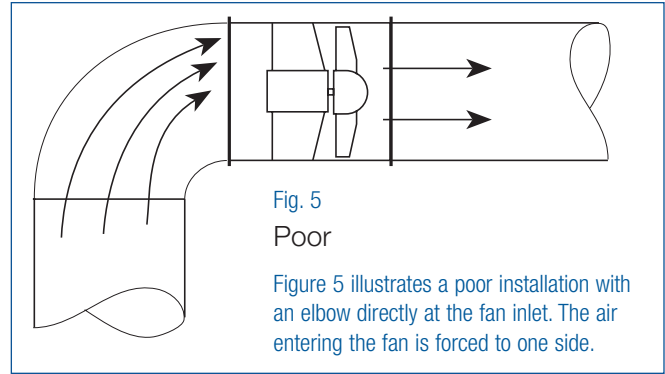
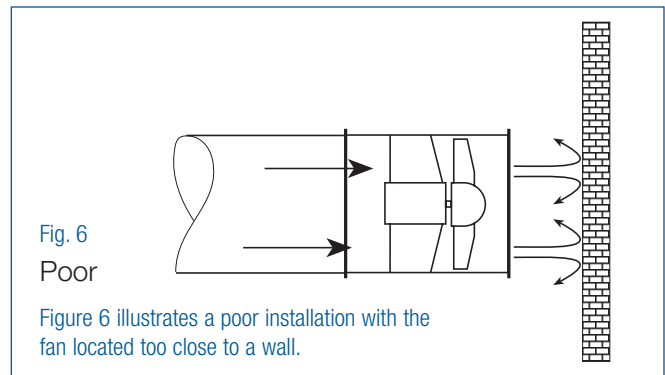
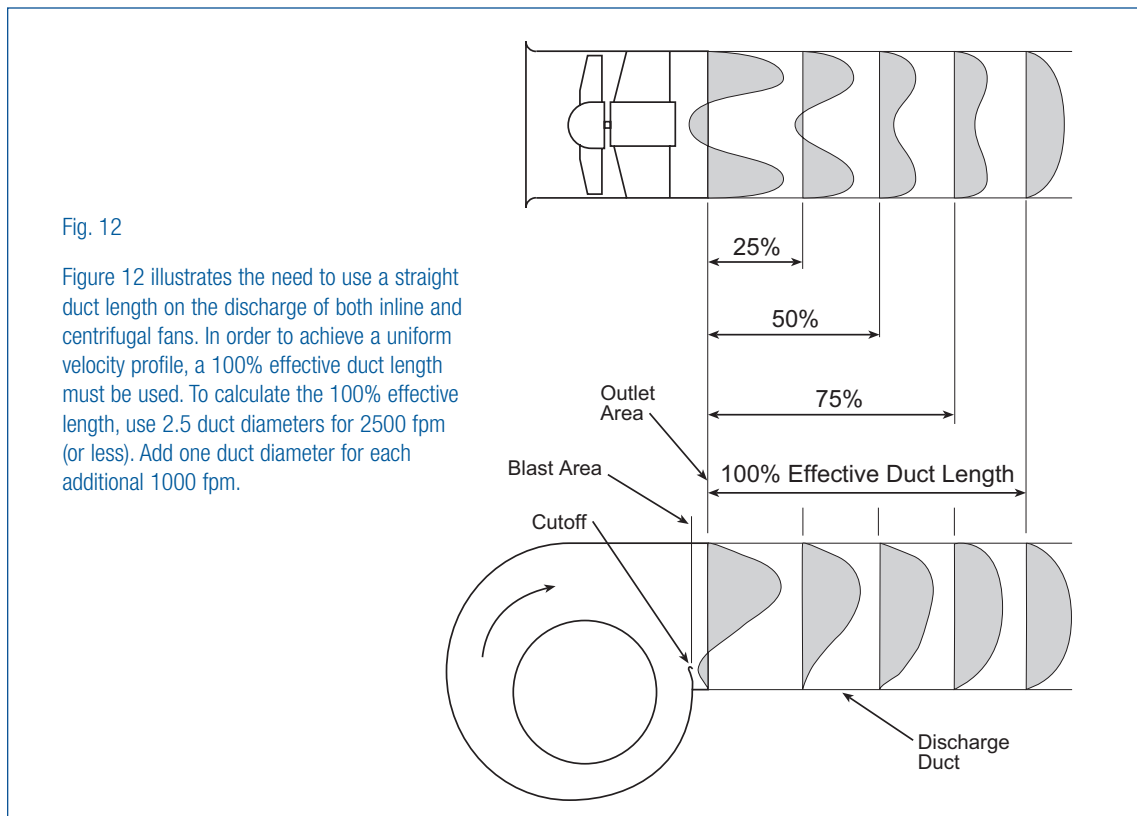

Fig. 5
Fig. 6
Fig. 12
Figure 5 illustrates a poor installation with an elbow directly at the fan inlet. The air entering the fan is forced to one side.
Figure 6 illustrates a poor installation with the fan located too close to a wall.
Figure 4 illustrates how tube axial, tube centrifugal, and mixed flow fans are tested. Illustrations with straight inlet ducts and inlet bells would result in similar performance. Without a discharge duct, a system effect will occur. (See Figure 12 on page 4 for recommended discharge.) Inline installations are subject to system effect both at the fan inlet and outlet, as shown in Figures 5 and 6. Figure 5 illustrates a poor inlet condition with an elbow directly at the fan inlet. Figure 6 illustrates a poor outlet condition where the fan discharges too close to a wall. Inline fans require the appropriate length of discharge duct in order to achieve cataloged performance. (Refer to Figure 12 on page 4.)
Figure 7 illustrates how housed centrifugal fans are tested. Centrifugal fan installations are subject to the greatest possibilities of system effect due to the possibilities of both ducted inlets and outlets, plus multiple available arrangements, discharge positions, and CW or CCW rotations. Figure 8a illustrates a poor installation with an elbow directly at the fan discharge. This type of installation can be avoided by selecting a fan with the correct rotation and discharge position as shown in Figure 8b. Figure 9 illustrates another poor installation with an abrupt discharge into a plenum. A system effect results if a given length of discharge duct is not present. (See Figure 12 on page 4 for recommended discharge ductwork.)
- Avoid free discharges for inline and centrifugal fans. Add the duct length required to obtain a uniform velocity profile and to minimize losses (see Figure 12).
Figure 12 illustrates the need to use a straight duct length on the discharge of both inline and centrifugal fans. In order to achieve a uniform velocity profile, a 100% effective duct length must be used. To calculate the 100% effective length, use 2.5 duct diameters for 2500 fpm (or less). Add one duct diameter for each additional 1000 fpm.